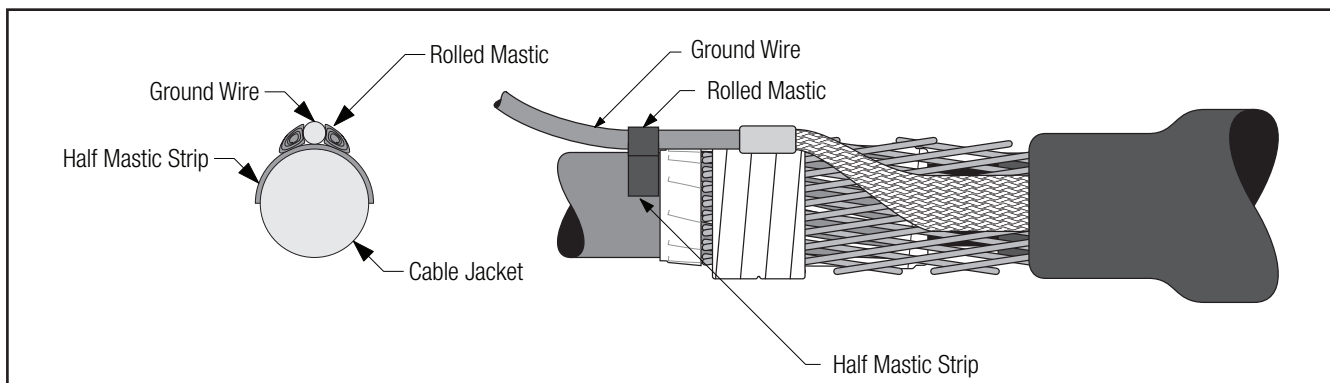

Figure 23
- 6.2 Cut one mastic sealing strip into two equal pieces. Place one piece on the cable jacket centered under the ground wire near the jacket end. Roll two mastic strips into small rolls. Place one roll on either side of the ground wire. (*Figure 23*).